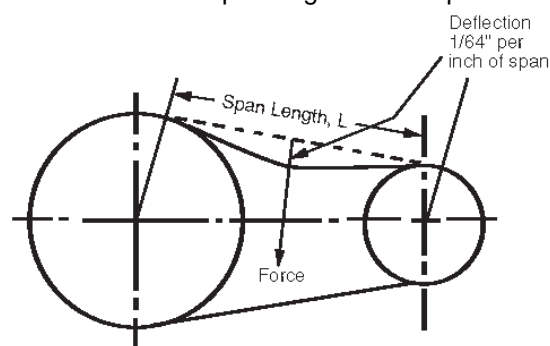

Figure 10. Belt Tensioning
1. Measure the span length "L" of your drive, refer to Figure 10.